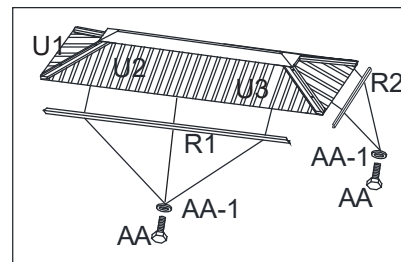

Figure 12-2
12.2: Attach Roof Vent Panel (U1) to the Roof Vent Frame and secure to Short Side of the Roof Vent (P1) using Bolt (AA) and Plastic Washer (EE). See Figure 12-2.